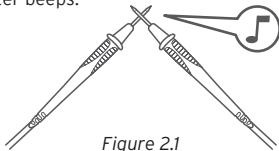

Figure 2.1
3. Test the test leads before measurement by connecting the metal ends of the leads together. The multimeter will beep to indicate that the test leads are working properly. [Figure 2.1]